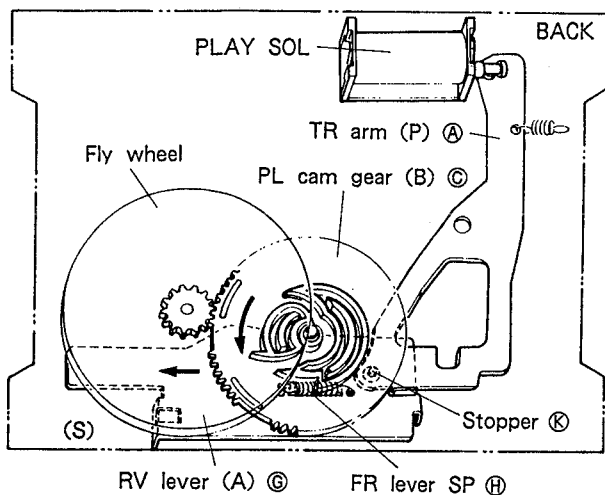
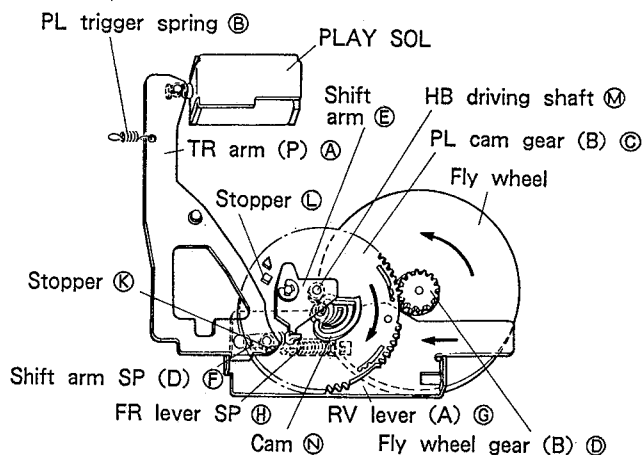

Fig. 8-1
Fig. 8-2
Fig. 8-1 shows the standard positions of head chassis, cam gear, and etc. during STOP.
Fig. 8-2 indicates the PLAY power-assist mechanism during STOP. In the figure, cam N and stopper K, U are each formed on both the front and back sides of PL cam gear (B) C.
- 1) PLAY solenoid pulls, TR arm (P) ①.
- 2) The pin of arm ① comes off stopper ②.
- 3) Head chassis is pressed by head chassis SP and moves down, and gear ③ rotates through HB driving shaft ④ inside shift arm.
- 4) When head chassis moves down, boss ⑧ of arm ① is pressed back from the wide part of the through hole in head chassis to the narrow part, and arm ① rotates counterclockwise.
- 5) PLAY gear ⑥ leaves reel stand assembly, and reel stand assembly rotation stops.
- 7) Two gears ③ and ④, engage each other.
- 9) Gear ③ continues rotating by gear ④ rotation.
- 10) Gear ③ comes off gear ④ when driving shaft ④ comes to the slope of the short piece side of cam ⑤.
- 11) Gear ③ tries to continue rotating due to driving shaft ④ pressing force and the slope action of the short piece side of cam ⑤. However, stopper ⑦ hits the pin of arm ① and gear ③ stops rotating. At the same time, driving shaft ④ stops in the lowering state. (STOP state) (Fig. 8-1., Fig. 8-2.).